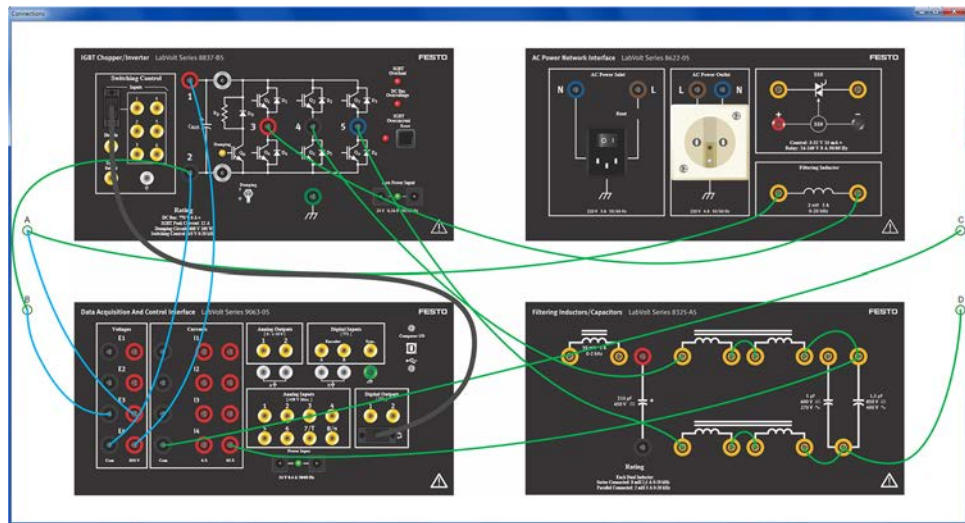

Figure 11: Connections window showing the connections to perform on the modules to implement the function Single-Phase Stand-Alone Inverter.
- Finally, the control window shows a diagram of the electrical circuit controlled by the function selected in the Control Settings panel. Clicking on the Show Connections button below this diagram brings up a Connections window showing the connections to perform on the modules when setting up the equipment for the selected function (see Figure 11). The connections shown in the Connections window correspond to those represented by black lines in the preceding figure.